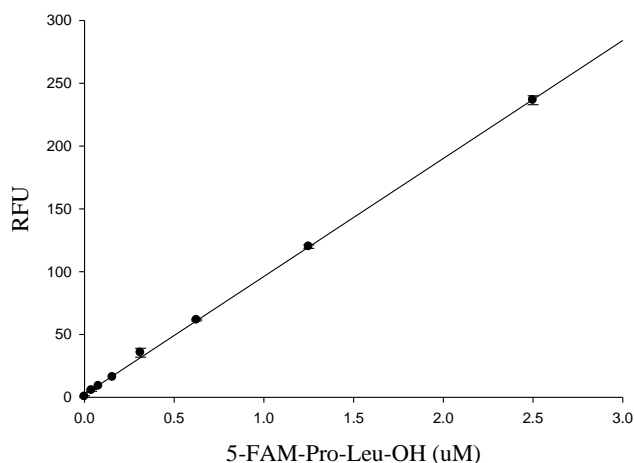

Figure 2. 5-FAM-Pro-Leu-OH reference standard curve
- Plot 5-FAM fluorescence reference standard as RFU (relative fluorescence unit) versus concentration as in **Figure 2**.